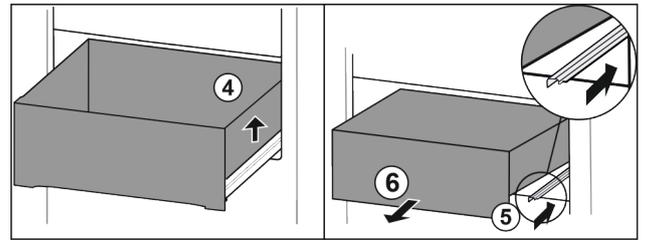

Fig. 14*
- ▶ Lift drawer on the right Fig. 14 (4).*
- ▶ Insert right rail Fig. 14 (5).*
- ▶ Take out the drawer to the front Fig. 14 (6).*